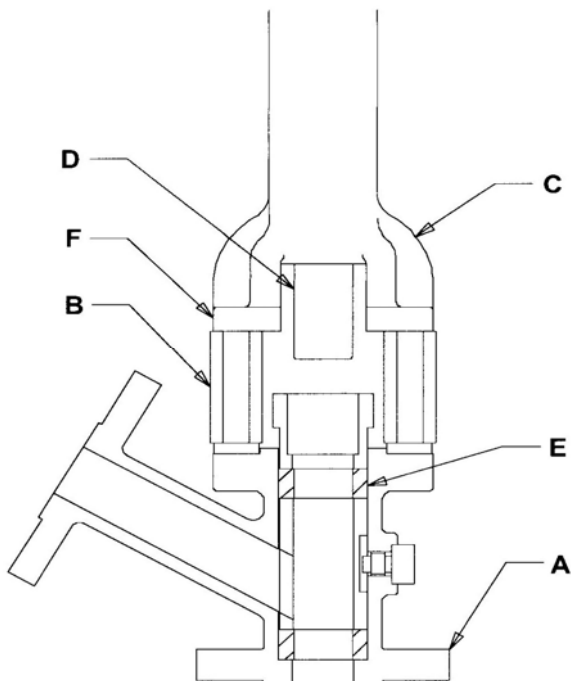

Figure 6 – Valve assembly using leg extensions
1. Place the body assembly "A" (See Fig. 6) with the inlet flange face down on a clean, non-abrasive surface. Place two leg extensions "B" on two bonnet studs diagonally across from each other.
After servicing, reassemble the valve following the procedures below. (See Fig. 6)